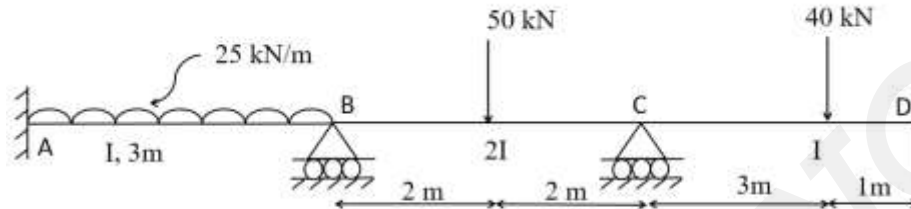

Fig.3
- 4 a) Differentiate between absolute stiffness and relative stiffness. (5)
- b) Analyse the continuous beam given in Fig.3 by Moment distribution method and draw BMD. (10)